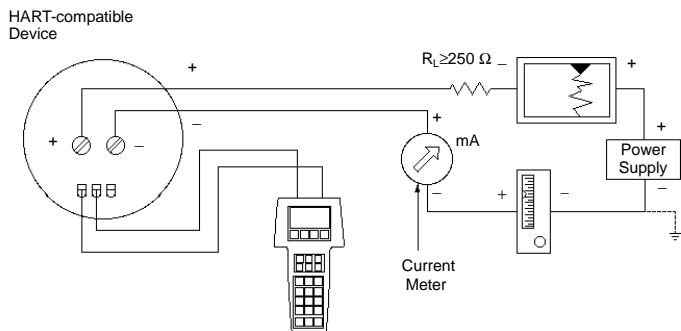
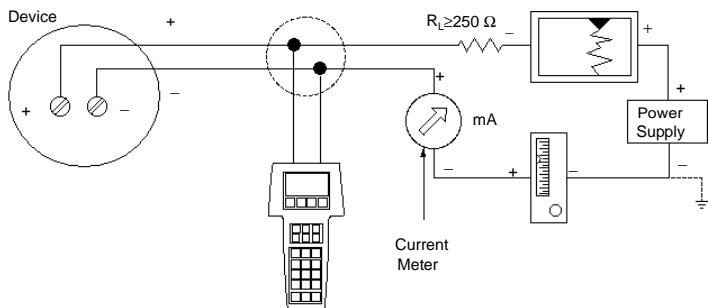

FIGURE 1-3. Connecting to the Transmitter Comm Terminals.
FIGURE 1-4. Connecting the HART Communicator to the Loop.
**Figure 1-3** and **Figure 1-4** illustrate typical wiring connections between the HART Communicator and any compatible device.